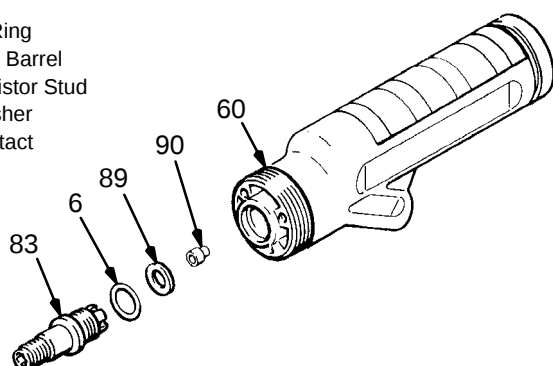

Fig 15
1. Remove the air cap (32) and fluid nozzle (30) as described in **Clean the Air Cap and Fluid Nozzle**.
2. Remove the electrode (55) as described in **Electrode Replacement**.
3. Using the tool (79g) supplied, unscrew and remove the resistor stud (83) with the o-ring (6) and washer (89). See Fig 15.
4. To replace the contact (90), push it out the front of the gun barrel (36) with the rod (79e) supplied. Press the new contact into the gun body until it bottoms out.
5. Lubricate the o-ring (6) with petroleum jelly and install it on the resistor stud (83).
6. Install the washer (89) in the gun barrel.
7. Using the resistor stud tool (79g), reinstall the resistor stud in the front of the gun barrel (60). Tighten until snug.
8. Install the electrode (55) as instructed under **Electrode Replacement**.
9. Install the fluid nozzle (30) and air cap assembly (32) as described in **Clean the Air Cap and Fluid Nozzle**.